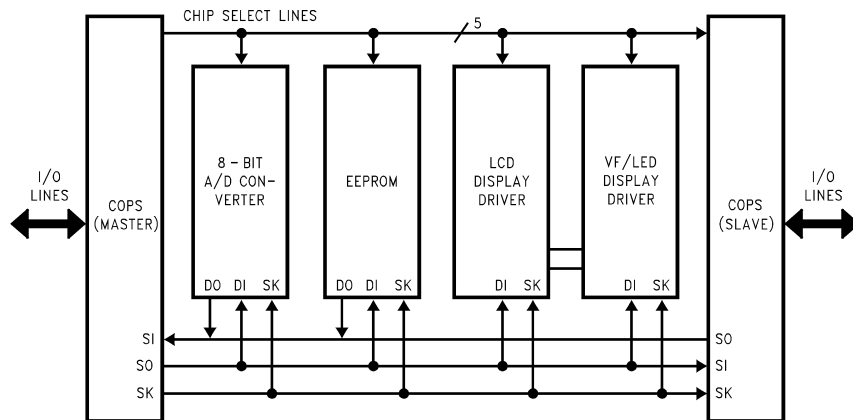

FIGURE 24. MICROWIRE/PLUS Application
8-bit serial shift register (SIO) with serial data input (SI), serial data output (SO) and serial shift clock (SK). Figure 24 shows a block diagram of the MICROWIRE/PLUS logic.
the BUSY bit by software to allow less than 8 bits to shift. If enabled, an interrupt is generated when eight data bits have been shifted. The device may enter the MICROWIRE/PLUS mode either as a Master or as a Slave. Figure 24 shows how two microcontroller devices and several peripherals may be interconnected using the MICROWIRE/PLUS arrangements.